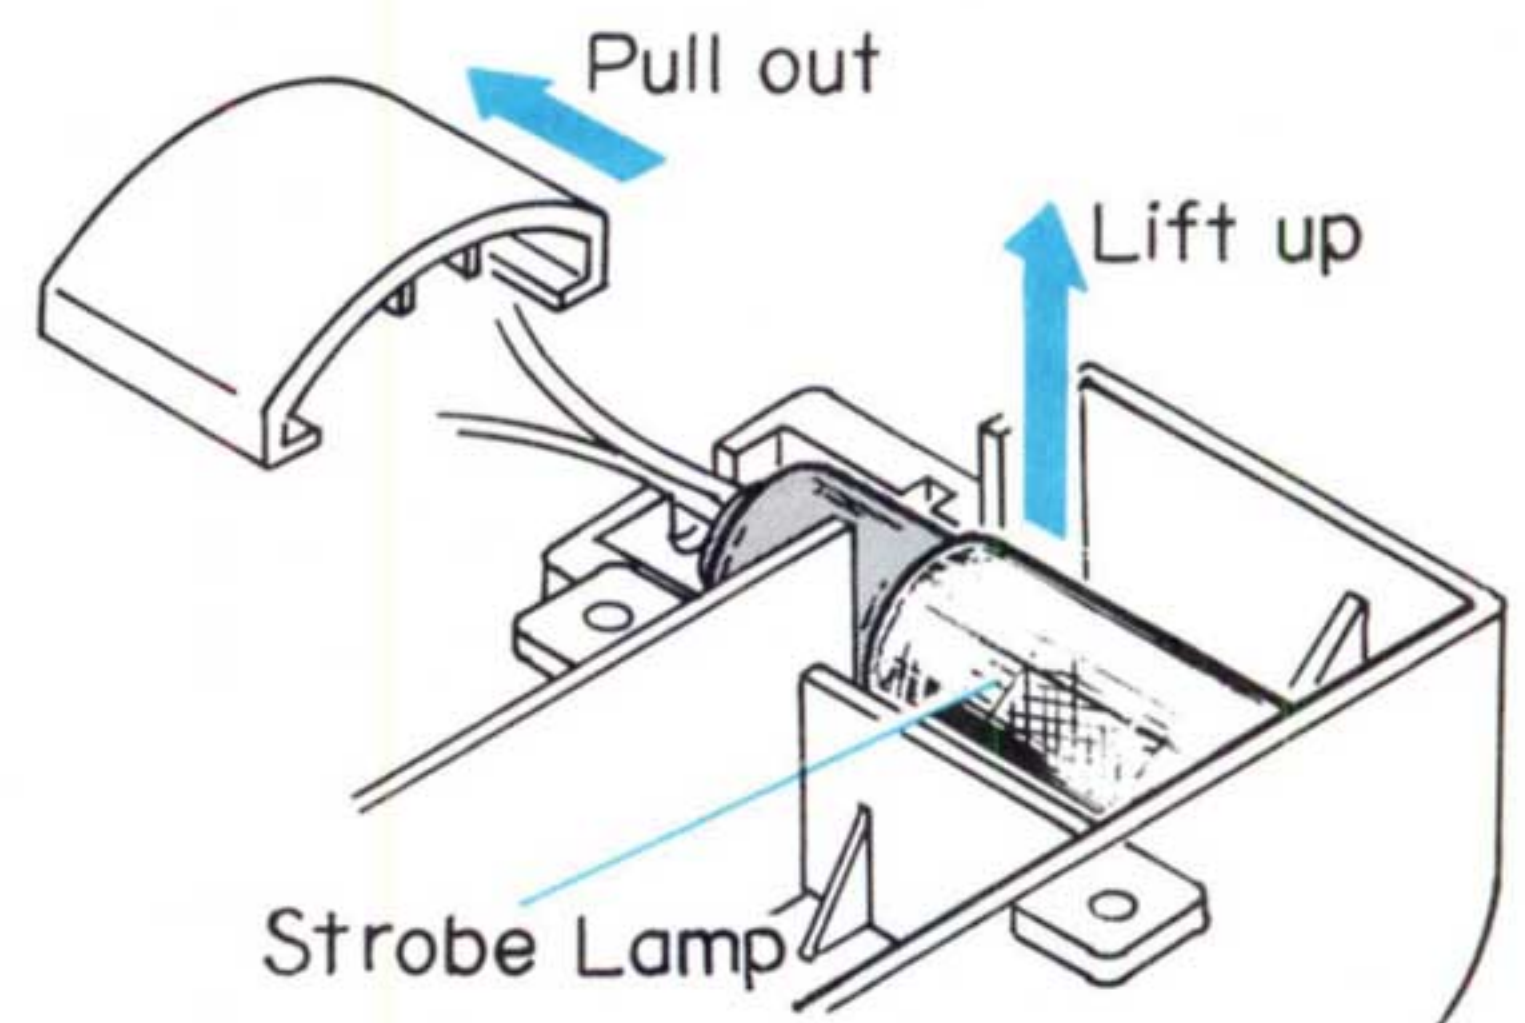

Fig. 2-8 Strobe Lamp Replacement
3. Slide off the cover of the lamp socket and pry out the lamp. See Fig. 2-8.